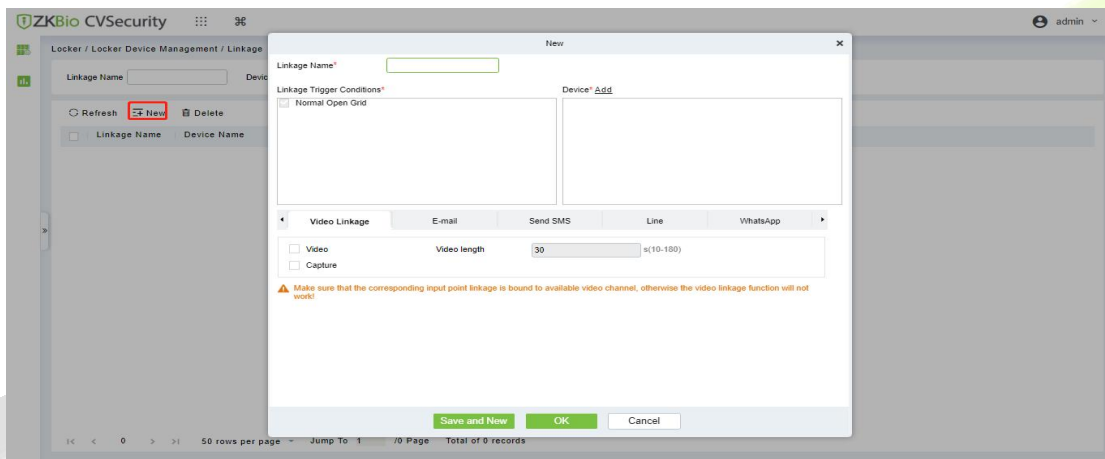

Figure 19-12 Adding Linkage
Step 2: On the linkage setting screen, click **Add**, as shown in Figure 19-12. Table 3 and Table 4 refer to the linkage parameters.